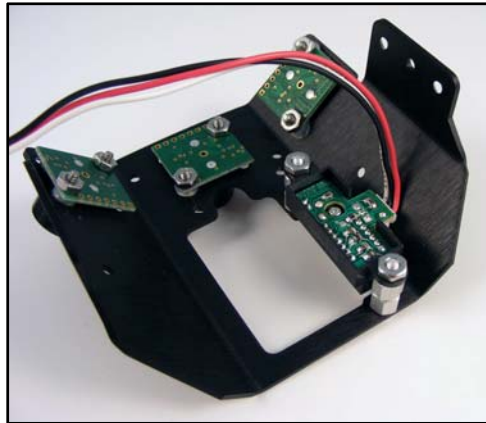

Figure 21
11.) Now, insert your Sharp IR cable into the sensor as shown in Figure 21.